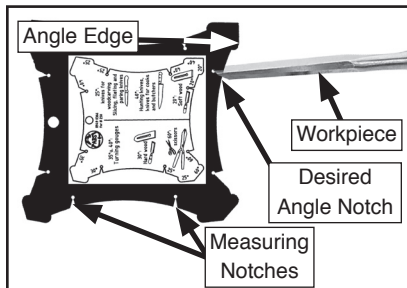

Figure 11. Measuring notches.
1. Locate the eight measuring notches on the angle finder (**Figure 11**).